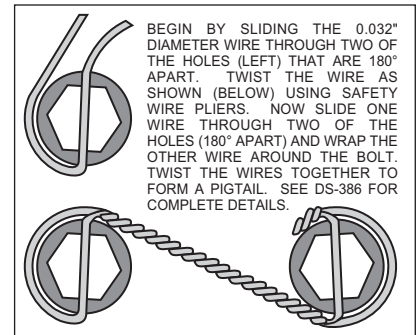
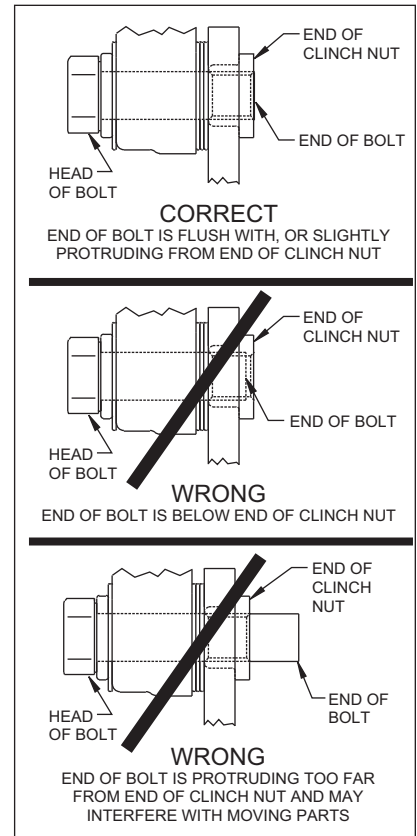

Figure 3. Safety Wire Diagram
Figure 4.
- The rotor (3) has two sides. A flat side and an inset side. Bolt hat (2) to flat side of rotor (3) using bolts (5). Using an alternating sequence, apply red *Loctite*® 271 to the threads and torque bolts to 180 **in-lb**. Safety wire bolts (5) using standard 0.032 inch diameter stainless steel safety wire as shown in Figure 3. Refer to Wilwood's data sheet DS-386 (available at www.wilwood.com/Pdf/DataSheets/ds386.pdf) for complete safety wire installation instructions.
- Align the correct hole pattern in the hat (2) with the stud pattern on the axle flange. **NOTE:** Some OEM and after market axles come with stud sizes larger than 0.50" diameter. Verify stud size and have a qualified machine shop drill the hats to the correct size. Slide the hat/rotor assembly (2 and 3) over the wheel studs and against the axle flange face.
- NOTE:** Please reference the caution statement at the beginning of the assembly instructions. Mount the caliper (6) over the rotor (3) and onto the caliper mounting bracket (1) using washers (7) and mounting bolts (8). View the rotor through the top opening of the caliper. The rotor should be aligned in the center of the caliper. If not, adjust the caliper by using 0.032 inch shims (9) by placing them between the caliper mounting bracket (1) and the caliper (6). Add as many shim washers (9) as necessary to achieve the correct alignment. **NOTE:** The end of the bolt must be flush with or slightly protruding from the head of the clinch nut. See Figure 4. Place spare shims (9) between washer and caliper mounting ear to achieve the proper mounting fastener configuration. Always use the same amount of shims on both the top and bottom caliper mounting bolts (8). Apply red *Loctite*® 271 to the mounting bolt threads (8), torque to 30 ft-lb. Safety wire the caliper mounting bolts (8).
- Position the Wilwood disc brake pads (10) into the caliper (6) and fasten with cotter pin (4). Steel backing plate side of brake pad should face the caliper pistons.